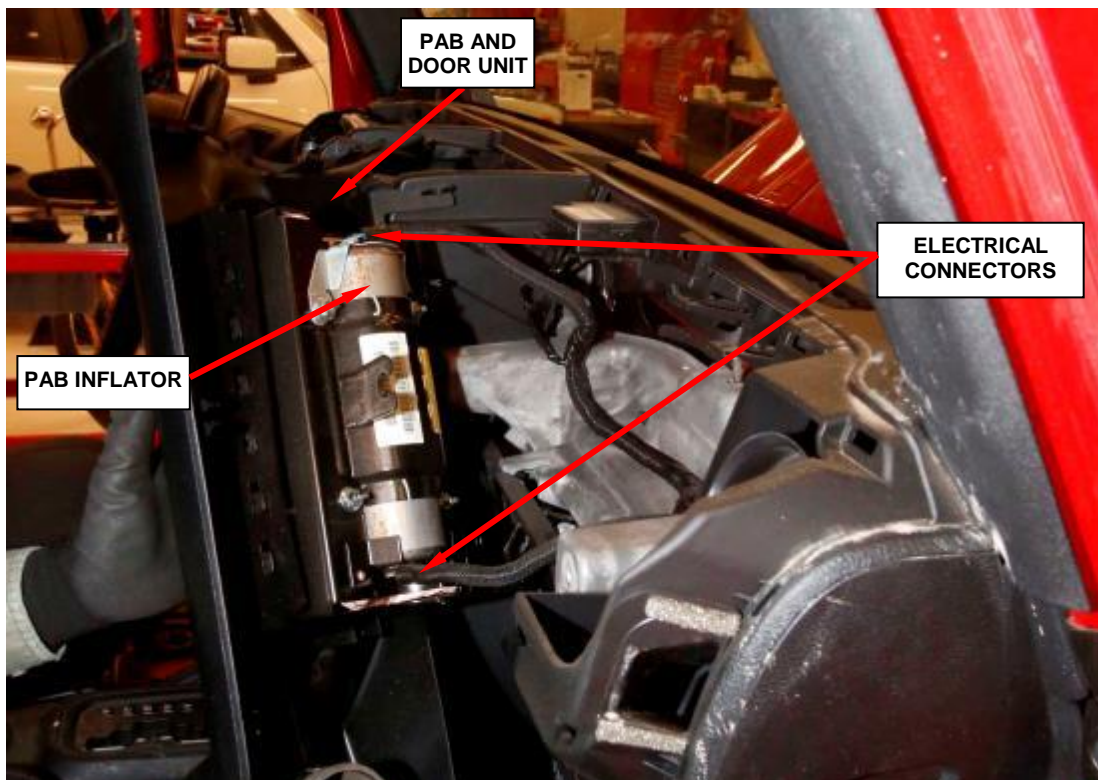

Figure 112 – Electrical Connectors
28. Grasp the lower edge of the PAB door and pull the door and PAB unit rearward far enough to access the two instrument panel wire harness connections to the PAB inflators at each side of the PAB housing (Figure 112).
29. Disconnect the two panel wire electrical connectors from the PAB inflators. Firmly grasp and pull the lock straight out from the connector insulator, then pull the insulators straight out from the inflator to disconnect them from the connector receptacles (Figure 112).